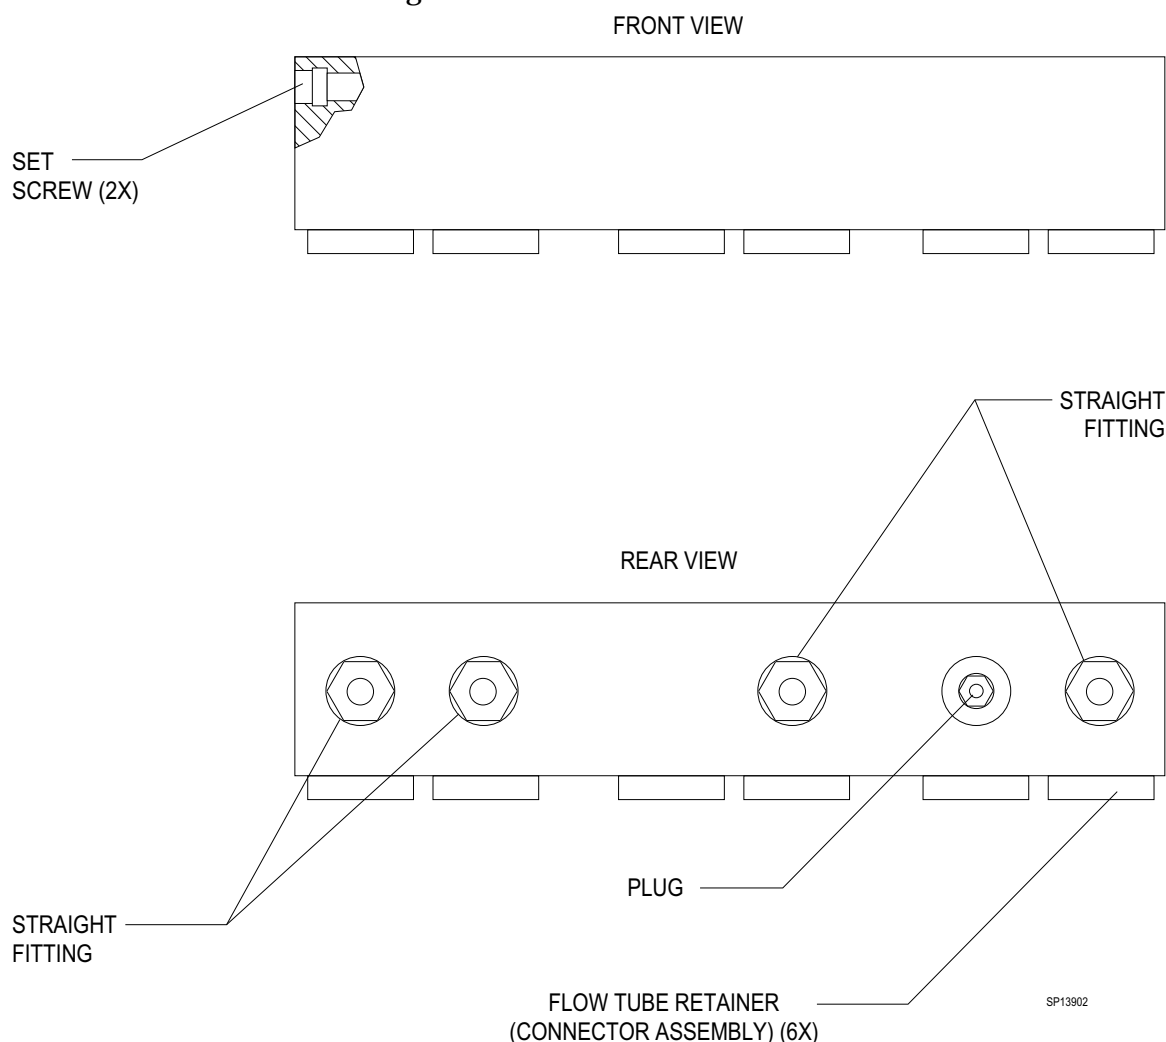

Figure 2: THREE-GAS TOP BLOCK ASSEMBLY
18. Install six upper flow tube retainers (connector assemblies P/N 4102506) into the 3-gas top flowmeter block (P/N 4112302). Apply Dow Corning High Vacuum Grease to the O-rings on the retainers. See Figure 2.
20. Place a drop of red Loctite #271 on the threads and install a straight fitting (P/N 4109408) in the block at the locations shown in Figure 2.
21. Place a drop of red Loctite #271 on the threads and install a plug (P/N 4105382) in the block at the location shown in Figure 2.